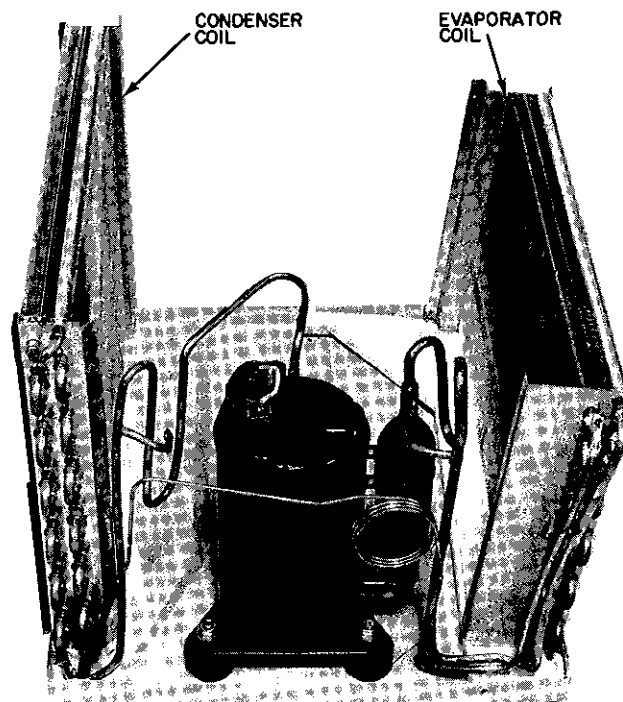

Fig 24 — Evaporator and Condenser Coils
- 20 **Evaporator and Condenser Coils** — See Evaporator and Condenser Coils in Fig 24 These coils have copper tubing The interconnecting tubing is designed as an integral part of the coils to make servicing easier